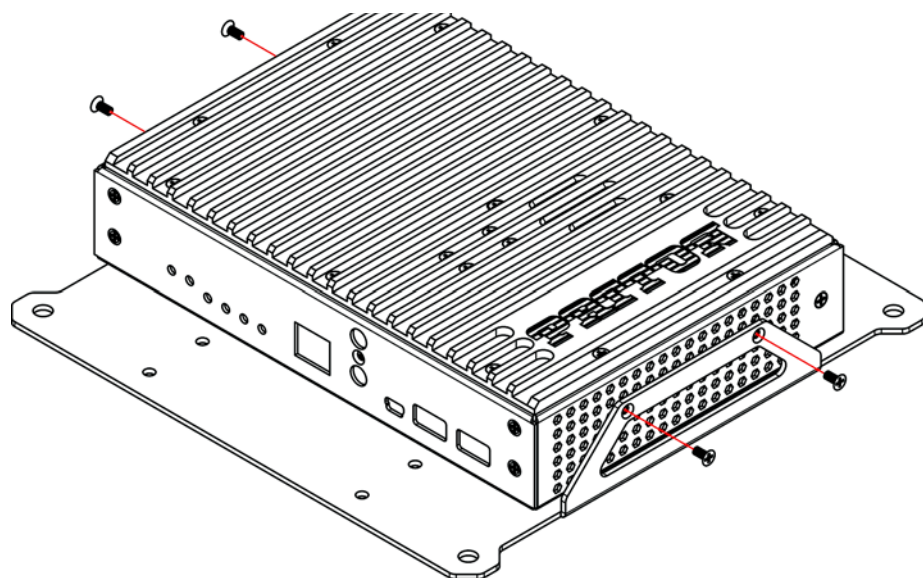

Figure 4. Securing the device to the VESA mounting bracket
4. Use 4 mounting screws included with the bracket to secure the FPX6000 in the bracket (see **figure 4**).
4. Use 4 mounting screws included with the bracket to secure the FPX6000 in the bracket (see **figure 4** on page 6).